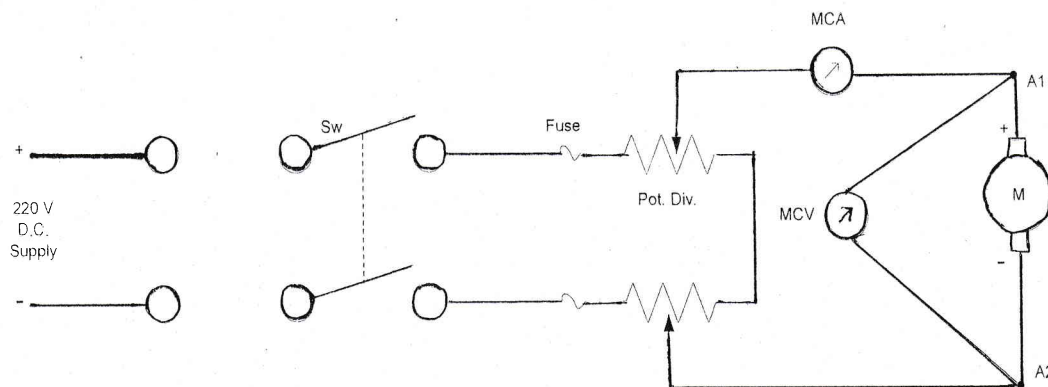

Fig. 2 Circuit diagram for Drop test
4. Measure its armature resistance (R_a) by 'voltage drop' method. For this, make connection as shown in Fig. 2 and take three sets of readings for armature current and armature voltage. Note them in Table No. 2.